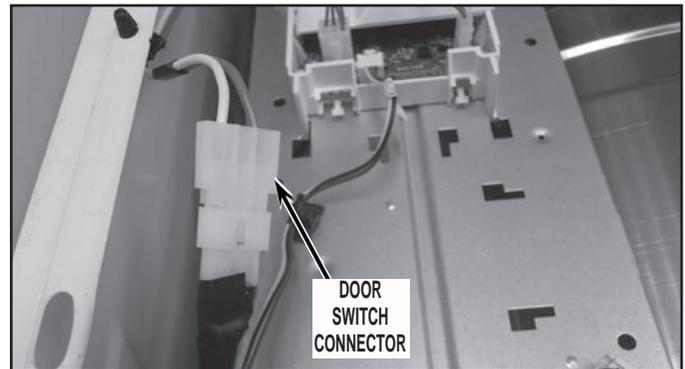

FIGURE 6
9. Disconnect door switch connector. See *Figure 6*.